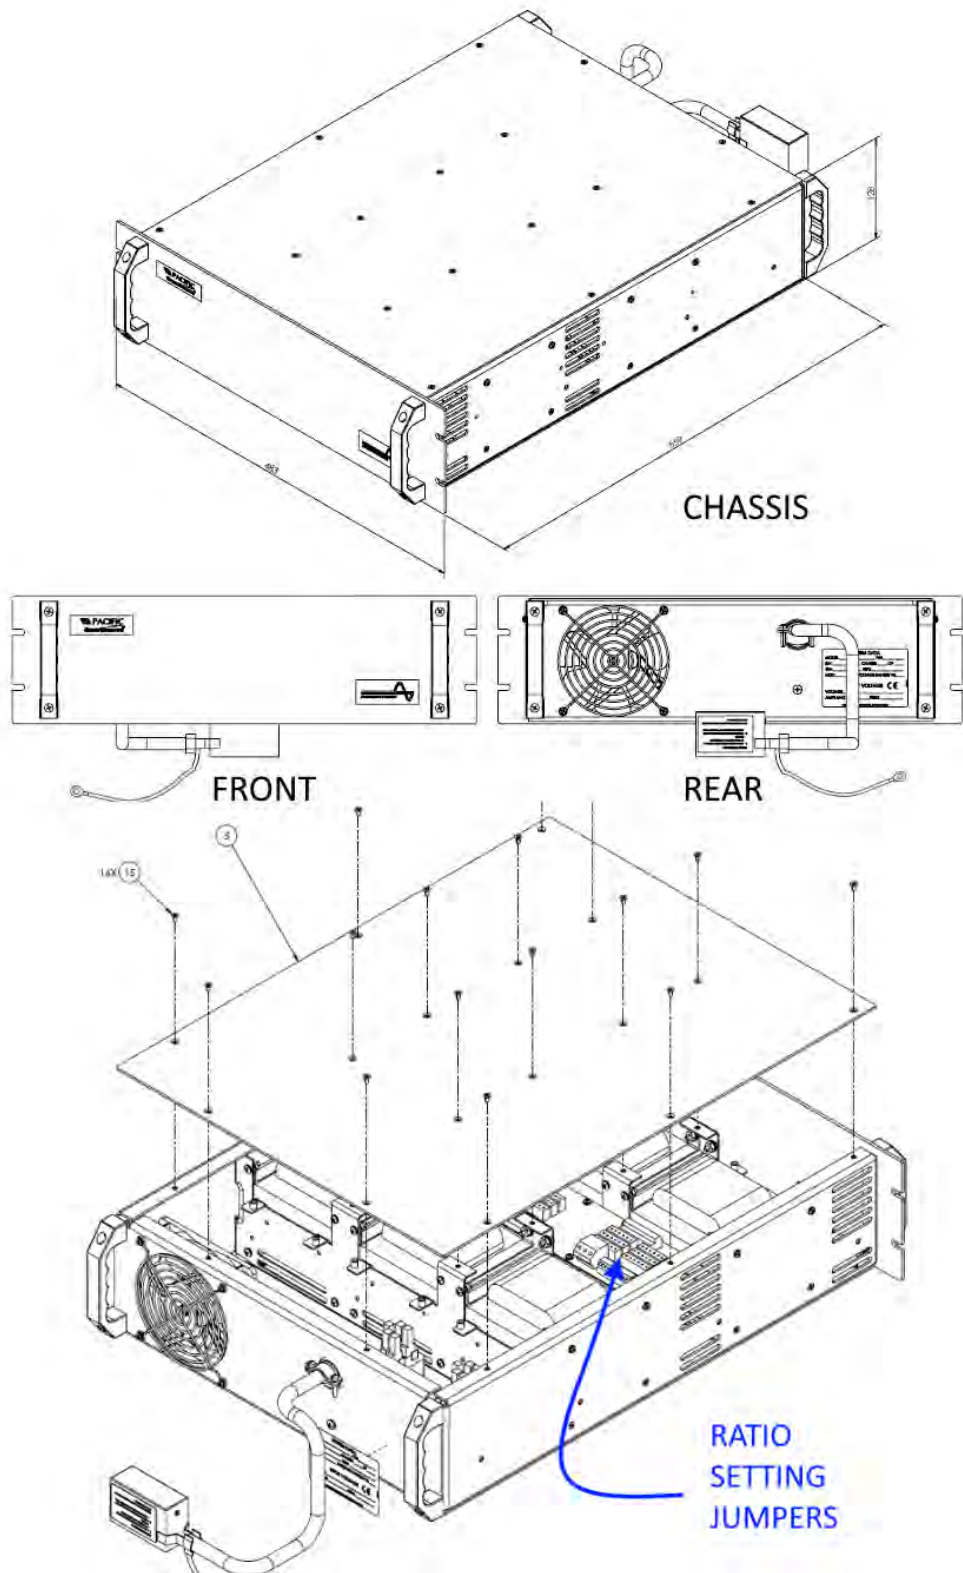
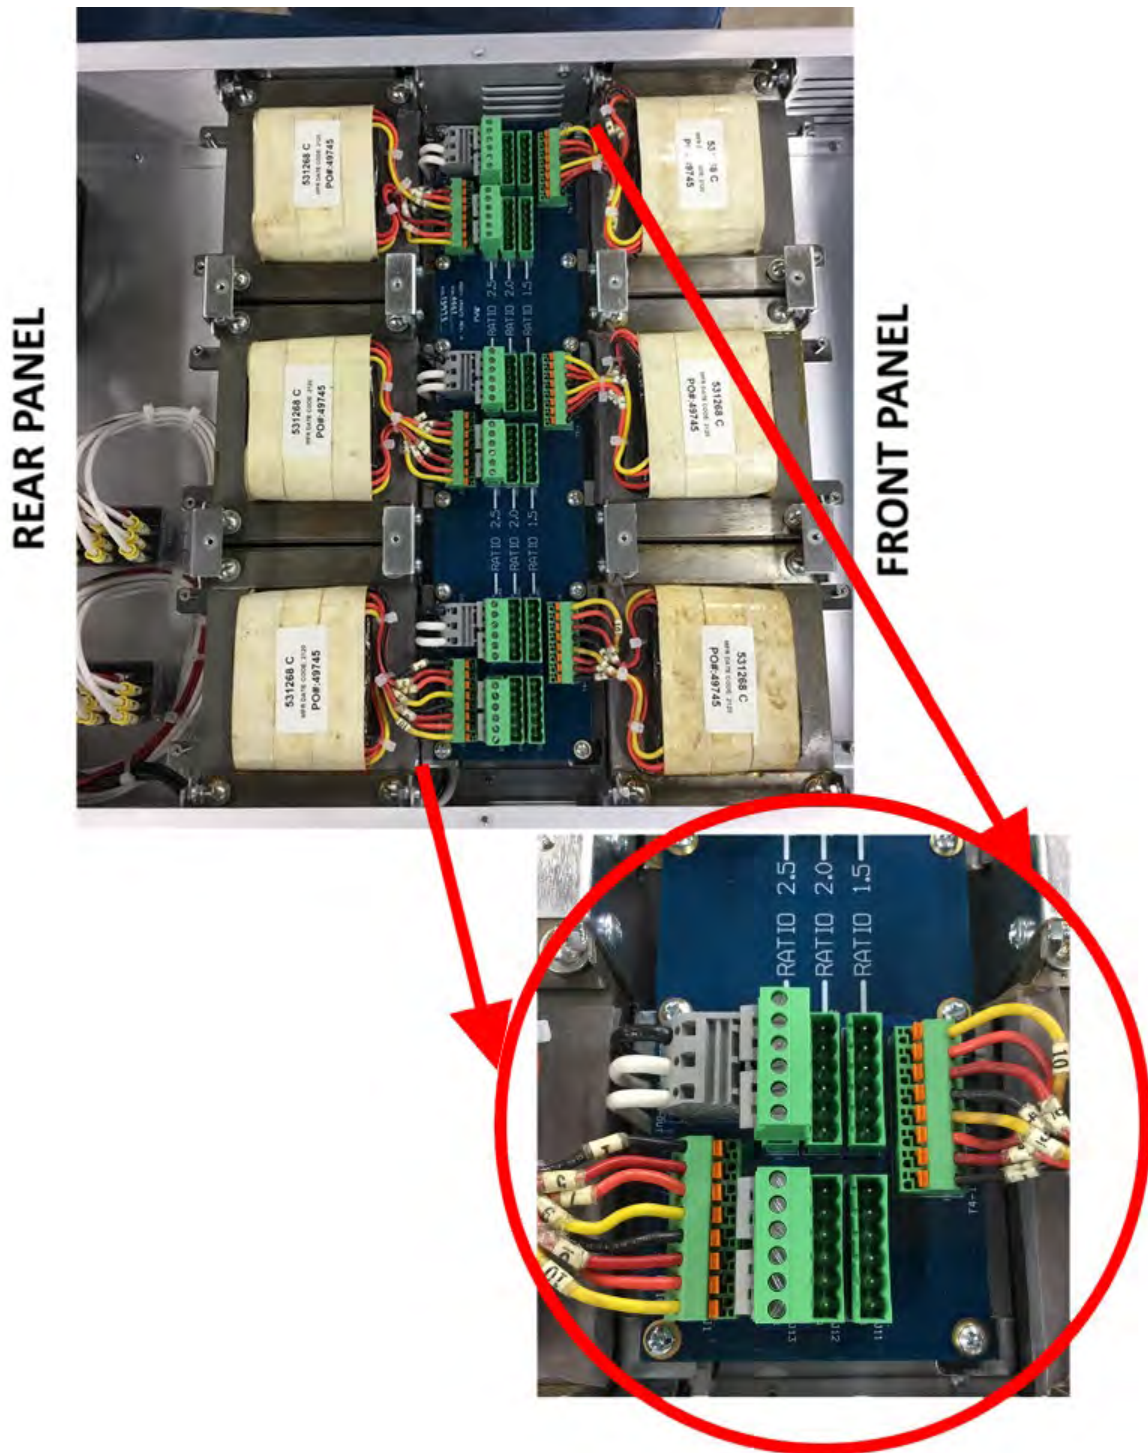

Figure 5-9: External Output Transformer Module Chassis Drawing Load Connections
Figure 5-10: External Output Transformer Module Configuration Jumpers
For all 5U rack height LSX models, the magnetics module consists of a separate 3U rack mount chassis that contains the transformers and connects to the power source. The Magnetics Module (Assembly No. 134780) is required for the VR1.5, VR2.0, and VR2.5. Refer to Figure 5-9 on page 80.
3. Move all jumpers to the desired transformer ratio position. All jumpers must be in the same row. The ratio is shown on the circuit board. Refer to Figure 5-10 on page 81.
The wiring requirements for a low range (0-132 Vac, 0-135 Vac or 0-150 Vac ) single phase load are shown in Figure 5-10.
used in addition to the wiring described above. Refer to Figure 5-9 and Figure 5-10 for connection details.
The wiring requirements for three phase loads (WYE or DELTA) are shown in Figure 5-9.
Figure 5-10 shows the external sense wiring for 1, 2, and 3ϕ systems. There is little or no current flowing through the External Sense metering lines. Standard 22 AWG, 600 Volt (0.050" or 1.27mm ) control wire is recommended for this application. Twisting the External Sense wiring is recommended and, in some cases, can improve performance. In noisy environments, shielding may become necessary. If shielded cable is used, be sure to ground the shield at one end only, to prevent the possibility of creating a ground loop.